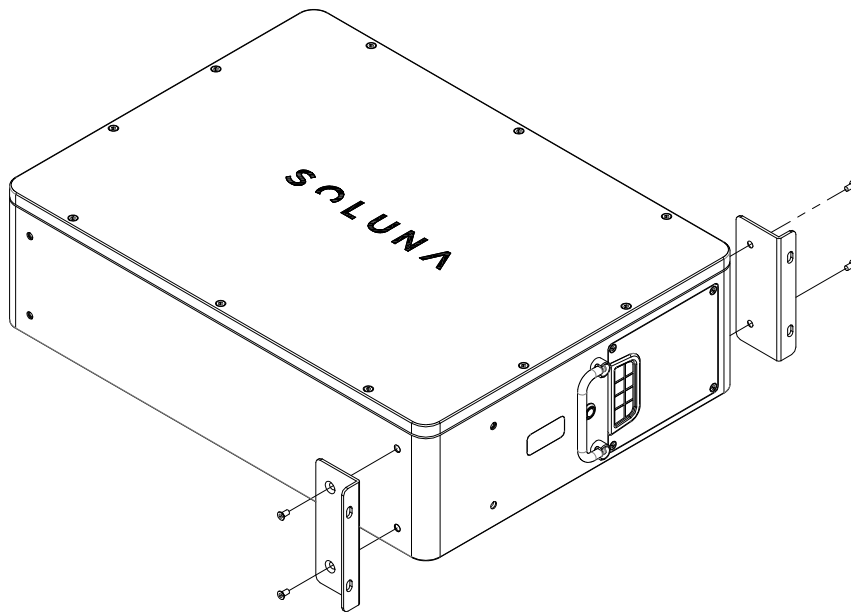

Figure 3.7
Step 1) Fix the U-box accessories to the product with 4pcs M6 countersunk head screws. (Figure 3.7 as shown)